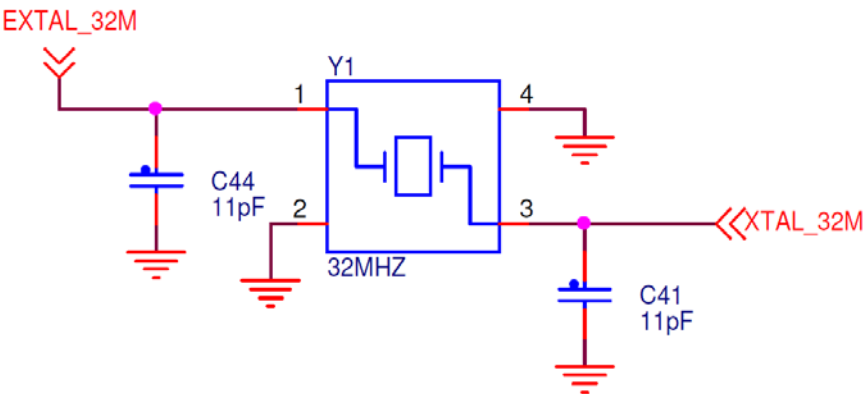

Figure 8. FRDM-KW40Z board's 32 MHz reference oscillator circuit
- 32 MHz Reference Oscillator—Figure 8 shows the 32 MHz external crystal Y1. This mounted crystal meets the specifications outlined in *Reference Oscillator Crystal Requirements for the MC1320x, MC1321x, MC1322x, and MC1323x IEEE 802.15.4 Devices* (document AN3251). The IEEE Std. 802.15.4 requires the frequency to be accurate to less than ± 40 ppm.